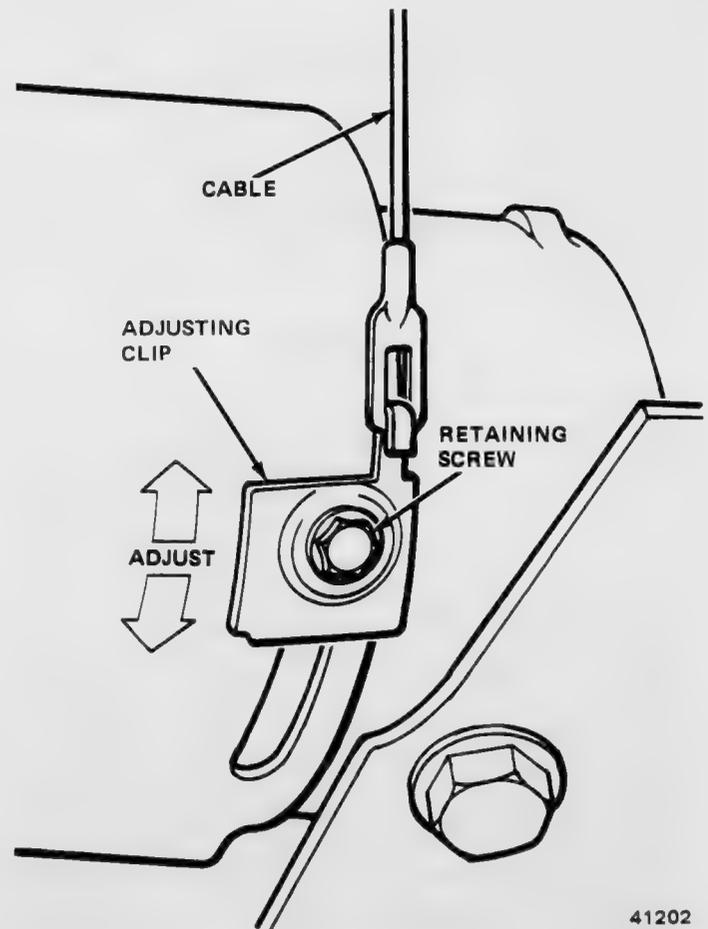

Fig. 2C-9 Shift Quadrant Cable
- (1) Pacer models, remove steering column tube cover.
- (2) On Matador models, remove lower finish panel.
- (3) Unlock steering column and place gearshift lever in neutral position.
- (4) Loosen screw attaching cable adjusting clip to steering column shift bowl (fig. 2C-9).